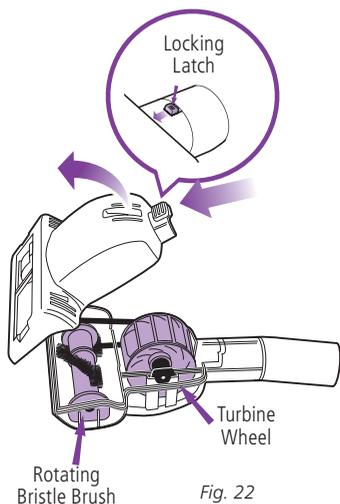

Fig. 22
- Turn the Power Brush over, slide the locking latch forward and tilt the cover upward to remove. (fig. 22)